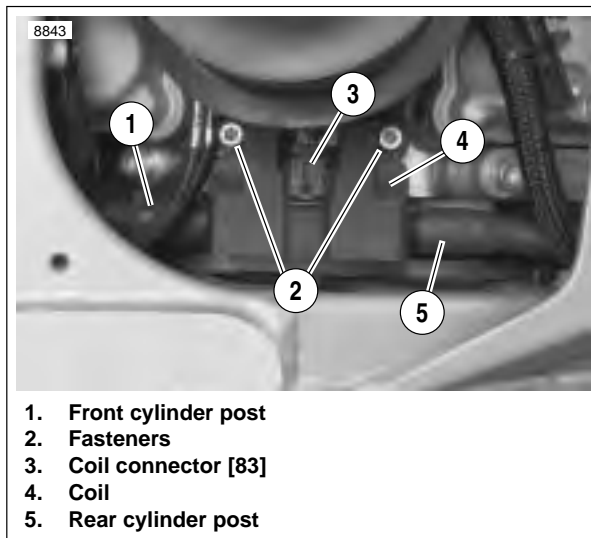

Figure 4-72. Ignition Coil Location
4. See Figure 4-72. Disconnect the spark plug cables from the coil plug posts (1, 5).
5. Detach connector (3) [83].
6. Remove coil fasteners (2).
2. See Figure 4-72. Attach coil to frame with fasteners (2). Tighten to 120-144 in-lbs (13.6-16.3 Nm).
4. Attach connector (3) [83].